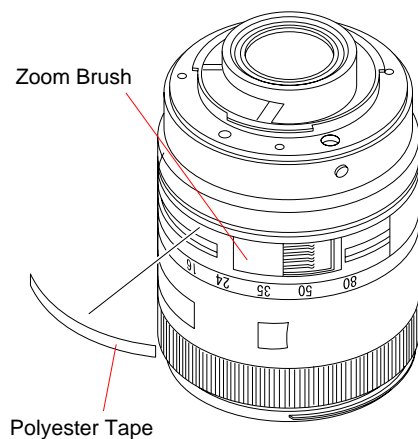

Fig.4-10-2
- 5) Fix firmly the zoom brush with the tape (A) as shown in Fig. 4-10-2.